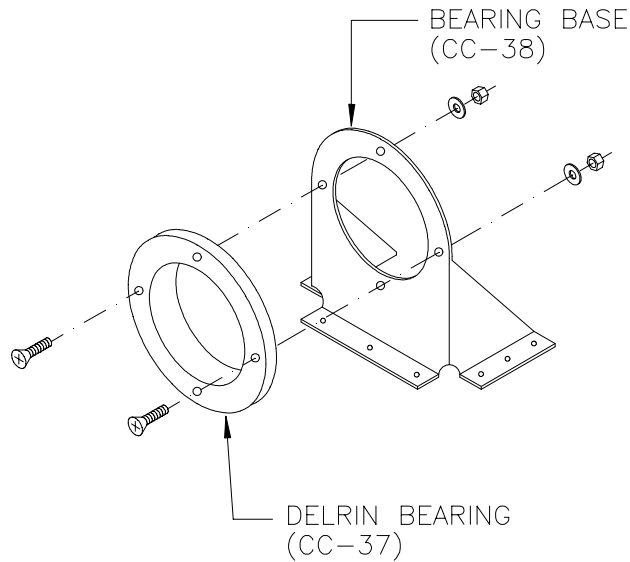

Figure 8.8.2
- 2) Attach two Delrin Bearings (CC-37) to the two Bearing Bases (CC-38) with eight flush AN 509-1032 R10 Machine Screws, eight AN960-10 Washers and eight AN365-1032 Nuts. Figure 8.8.2.